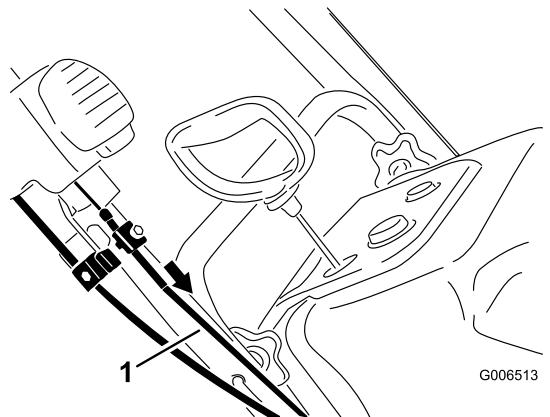

Figure 35
5. Pull the upper cable casing forward until you remove the slack in the cable, and tighten the screw on the upper cable clamp securely (Figure 35).